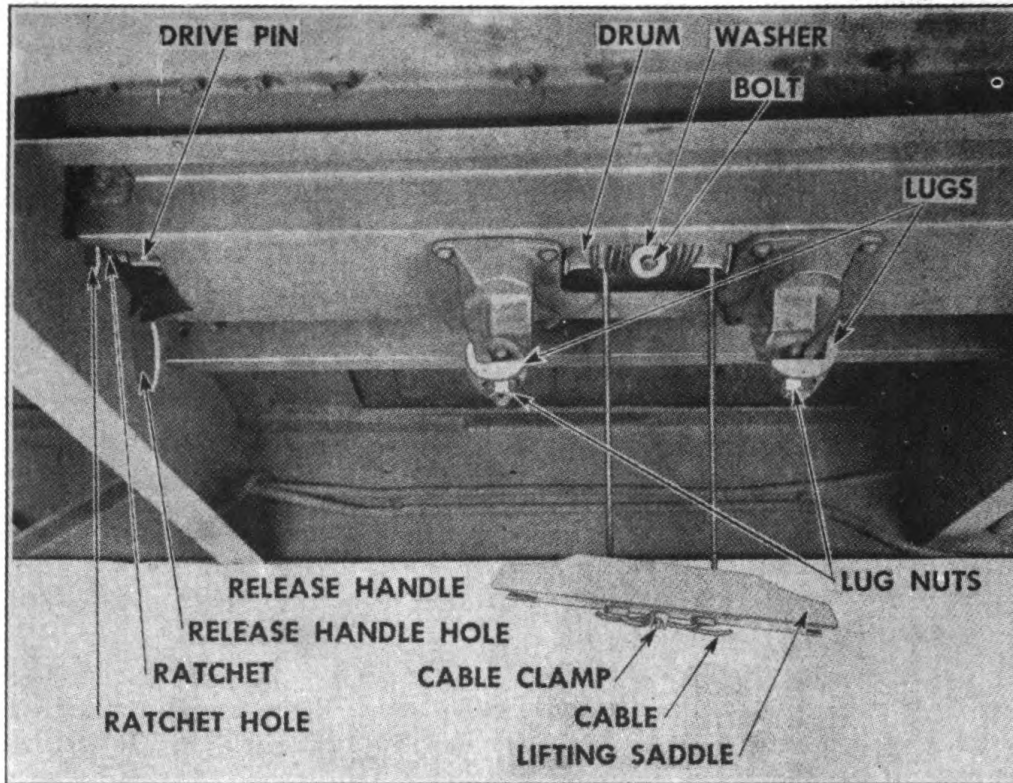

FIGURE 49. TIRE CARRIER REMOVAL
6. TIRE CARRIER.—*a. Removal.* (Fig. 49).—(1) Remove tire from tire carrier. Remove the four bolts holding tire carrier to frame and lift assembly out.
b. Cable replacement.—(1) Remove the bolt that runs through drum.